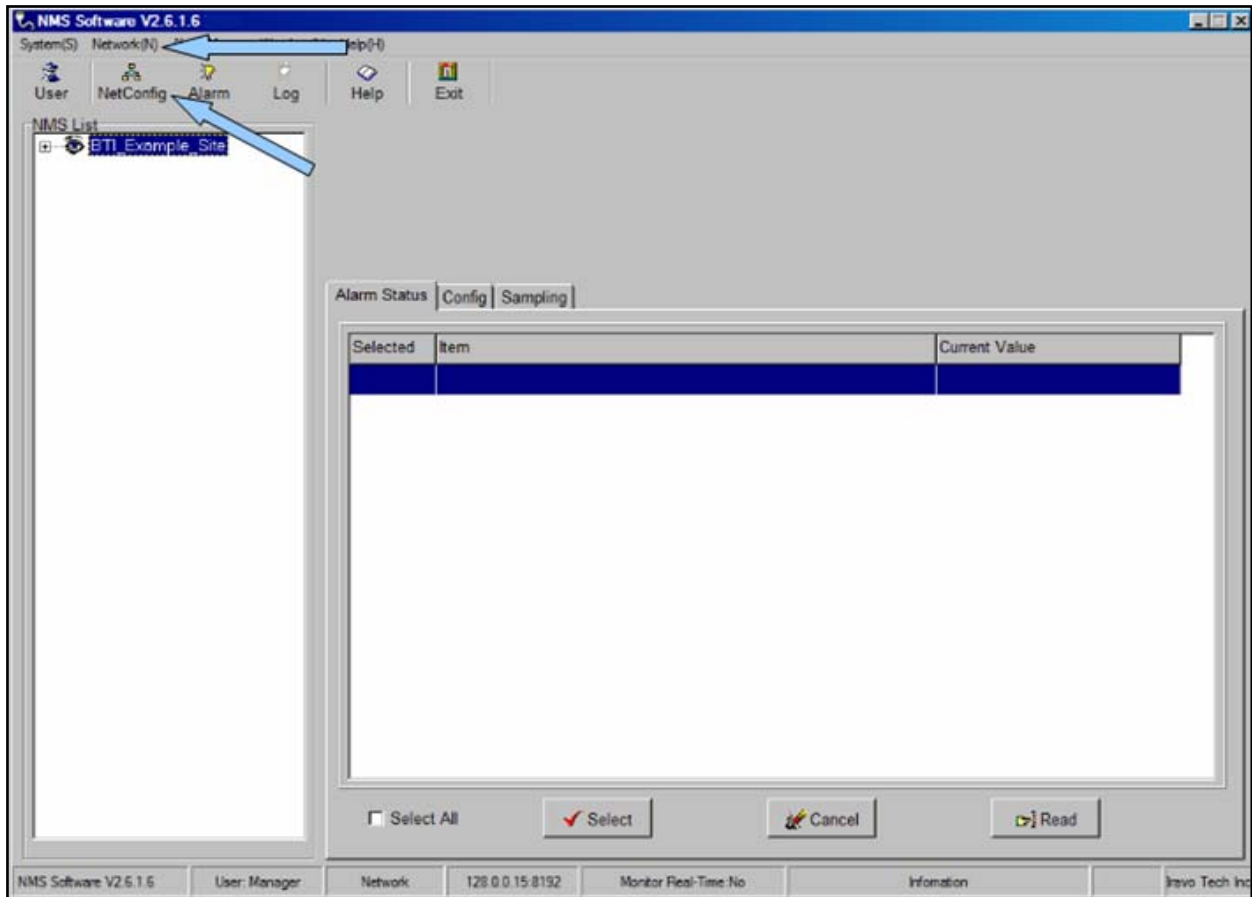

Figure 5-5. Accessing the Network Configuration screen
This section details the initial functions necessary for a basic system activation through the NMS. Access to the DAS system configuration is through the *Network(N)* menu bar drop-down or the Net Config Command bar button, **Figure 5-5**. The DAS *Network(N)* drop-down includes the ability to access the following functions:
*The NMS software provides an example configuration as shown in **Figures 5-5 and 5-6**. The example may be deleted or the example information may be overwritten with customer specific information and then saved by clicking the **Modify** button. For the purposes of this installation manual, the example has been deleted to provide the most accurate details.*
1. Access the *Network Config* screen, **Figure 5-5**, via the NetConfig Command bar button or the *Network(N)* menu drop-down.